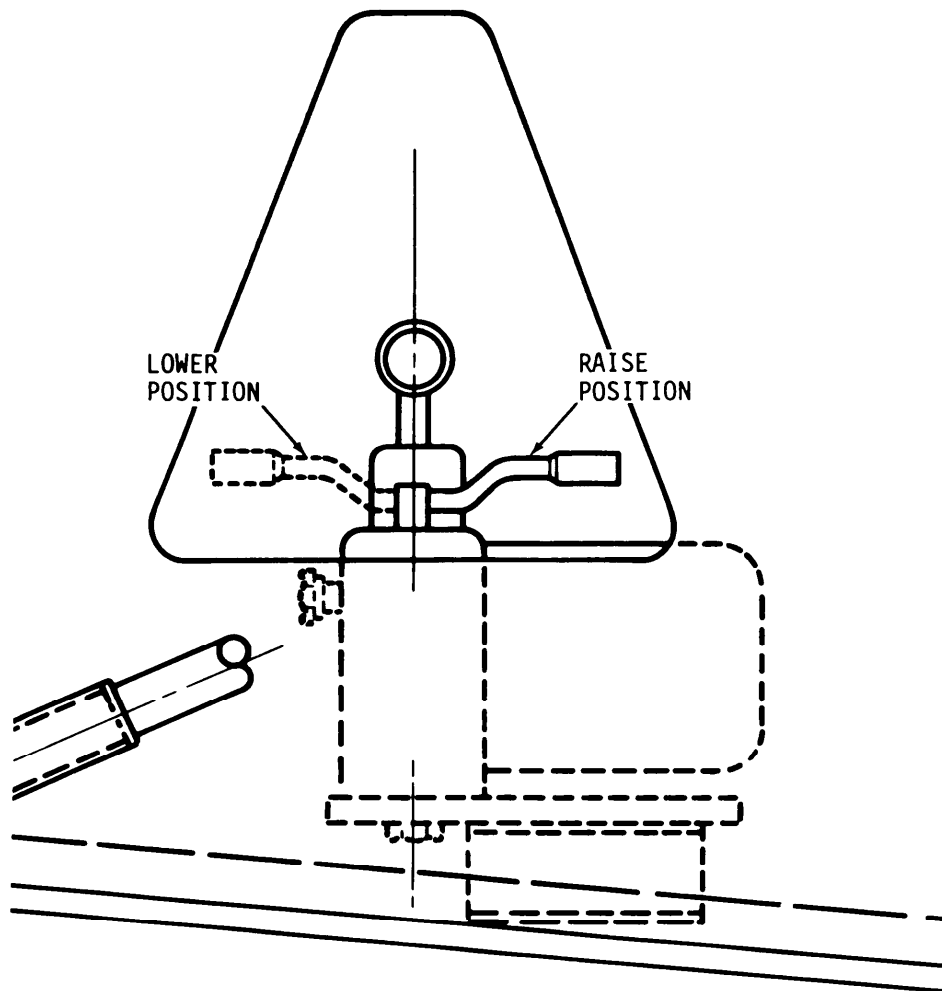

Figure 4-4. Pump Control Valve - Location
d. Place the pump control valve in the RAISE position (Fig. 4-4).
g. Place the pump control valve in the LOWER position (Fig. 4-4). The ramp will then settle to rest upon the work surface.
- c. Place the pump control valve in the RAISE position (Fig. 4-4).